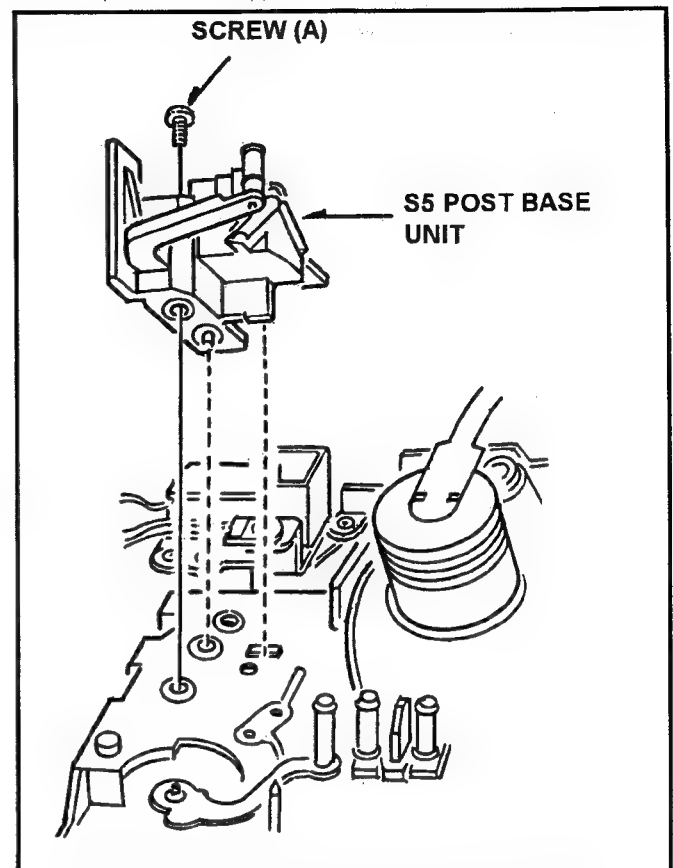

Fig. 8-14-1 Removal of S5 Post Base Unit
2. Unscrew the **screw (A)** and remove the S5 Post Base Unit as shown in Figure 8-14-1.